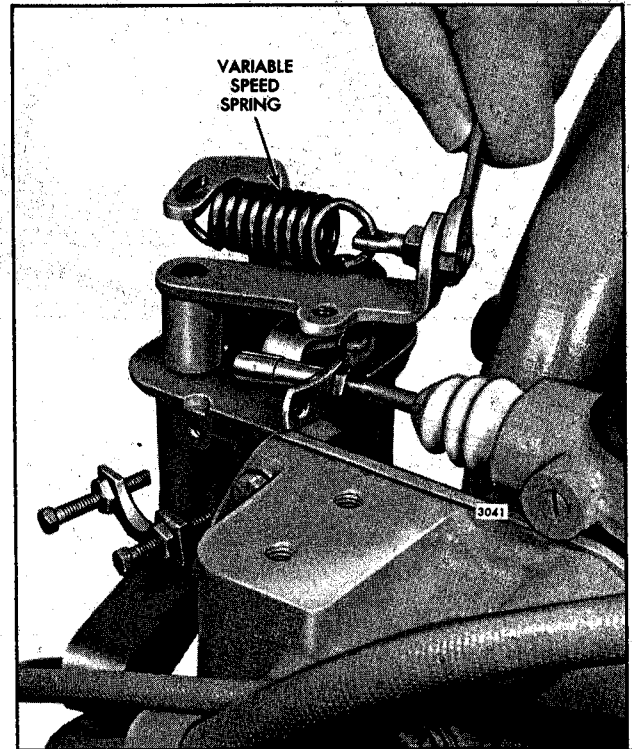

Fig. 2 - Adjusting Governor Spring Eye Bolt
1. Adjust the variable speed spring eye bolt until $1/8"$ of the threads project from the outer lock nut (Fig. 2).